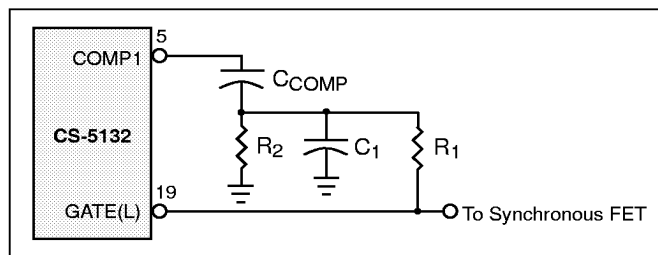

Figure 6: Small RC filter provides the proper voltage ramp at the beginning of each on-time cycle.
The circuit that implements this function for the synchronous regulator section ( $V_{CC(CORE)}$ ) is shown in Figure 6.
The ramp waveform is generated through a small RC filter that provides the proper voltage ramp at the beginning of each on-time cycle. The resistors  $R_1$  and  $R_2$  in the circuit of Figure 6 form a voltage divider from the GATE(L) output, superimposing a small artificial ramp on the output of the error amplifier.